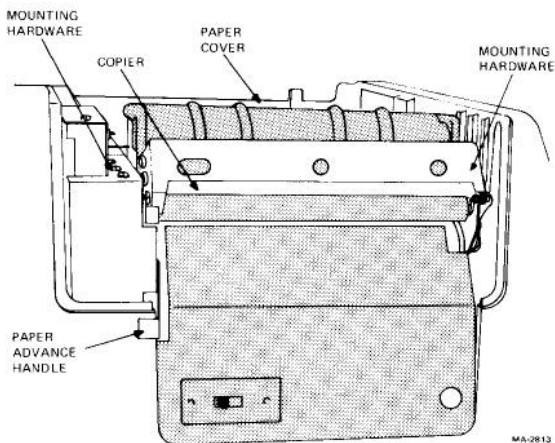

Figure 3-13 Removing and Replacing the Electrolytic Copier Option
2. Remove the copier paper cover (Figure 3-13).
When installing the copier in the terminal ensure that the paper advance handle on the copier is as shown in Figure 3-13.